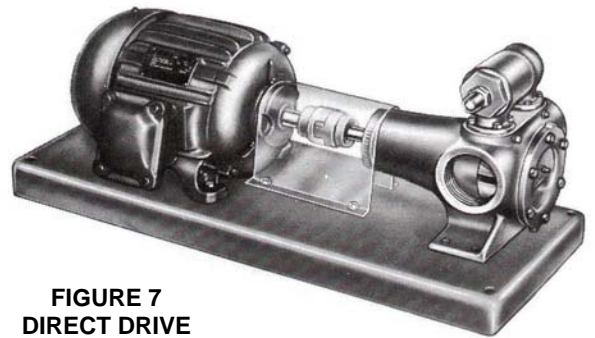

FIGURE 7
See item 13 under "Installation - Piping". Figures 7, 8, and 9 show typical units - direct, gear reducer and V-belt drive.